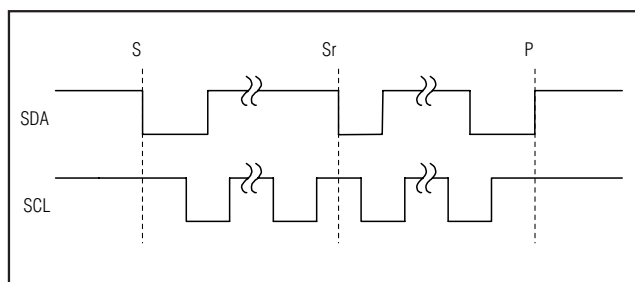

Figure 5. START and STOP Conditions
The master initiates a transmission with a START condition (S), a high-to-low transition on SDA while SCL is high. The master terminates a transmission with a STOP condition (P), a low-to-high transition on SDA while SCL is high (Figure 5). A repeated START condition (Sr) can be used in place of a STOP condition to leave the bus active and the mode unchanged (see the *HS Mode* section).